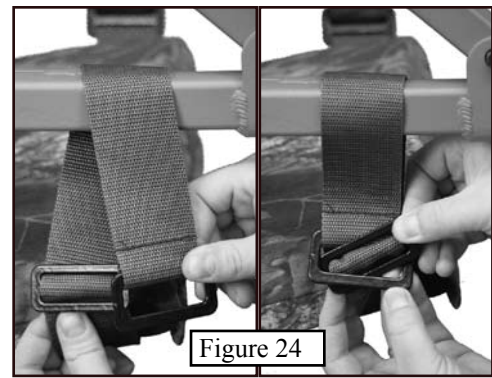

Figure 24
Step 3. Either have a helper hand you the seat or bring it up with a pull rope. The seat on the Single Shot ladder stand is removable. Wrap the webbing over the frame and buckle as shown in **Figure 24**. The back of the seat has a flexible snap that can be secured over the frame. This will hold the back of the seat upright. **DO NOT** reverse the seat on this Treestand.